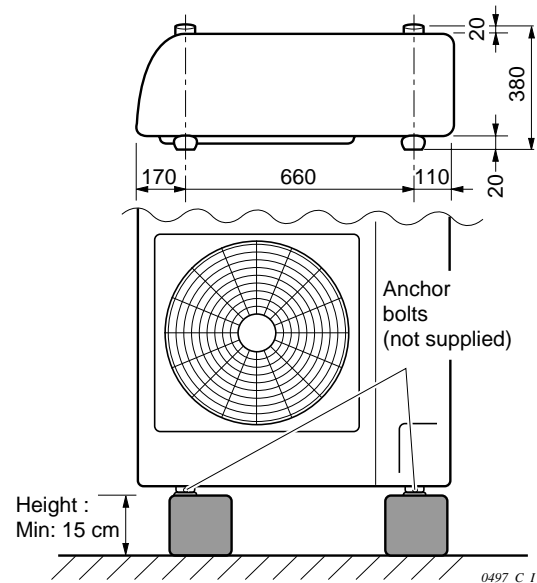

Fig. 4-2
- (1) Install blocks or a solid platform under the outdoor unit which provides a minimum height of 15 cm from ground level. (Fig. 4-2)
- (2) The outdoor unit must be bolted down tightly to the blocks or platform with 4 anchor bolts.